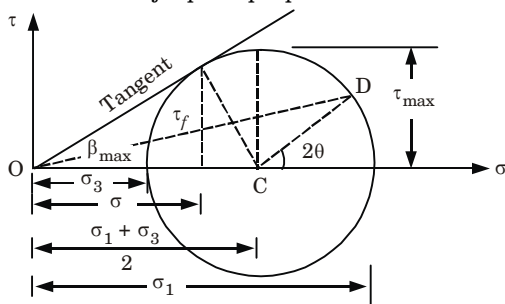

Fig. 4.13.1. Mohr's circle.
1. The maximum shear stress τ_{\max} is numerically equal to $(\sigma_1 - \sigma_3)/2$ and it occurs on a plane inclined at 45° to the principal planes as shown in Fig. 4.13.1.